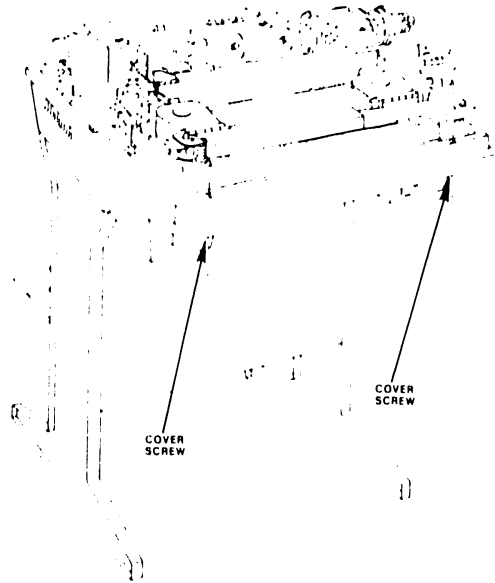

FIGURE 4
2. Remove the two-5x45mm Metric hex-head cap screws, holding the printer cover, from underneath the left and right sides of the front edge of the printer base. Refer to figure 4. Then remove and set aside the cover. An 8mm nut driver may be used to remove most of the Metric cap screws.